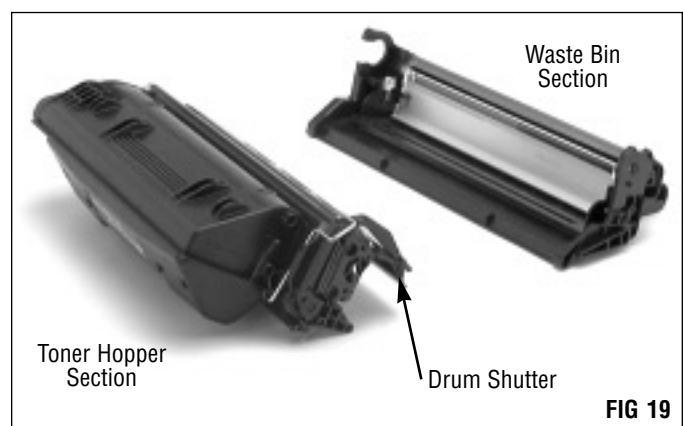

FIG 19
**8. Separate the cartridge (FIG 19).**